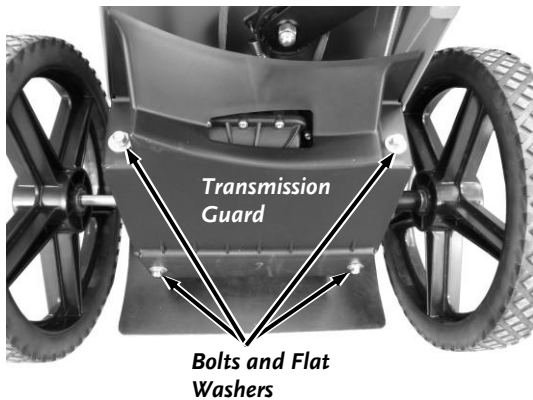

Figure 31
4. Remove the four Transmission Cover Bolts and Flat Washers with a 3/8" Wrench (**Figure 31**). Remove the Transmission Cover.
14. Install the Transmission Cover and secure with the four Transmission Cover Bolts and Flat Washers using a 3/8" Wrench (**Figure 31**).